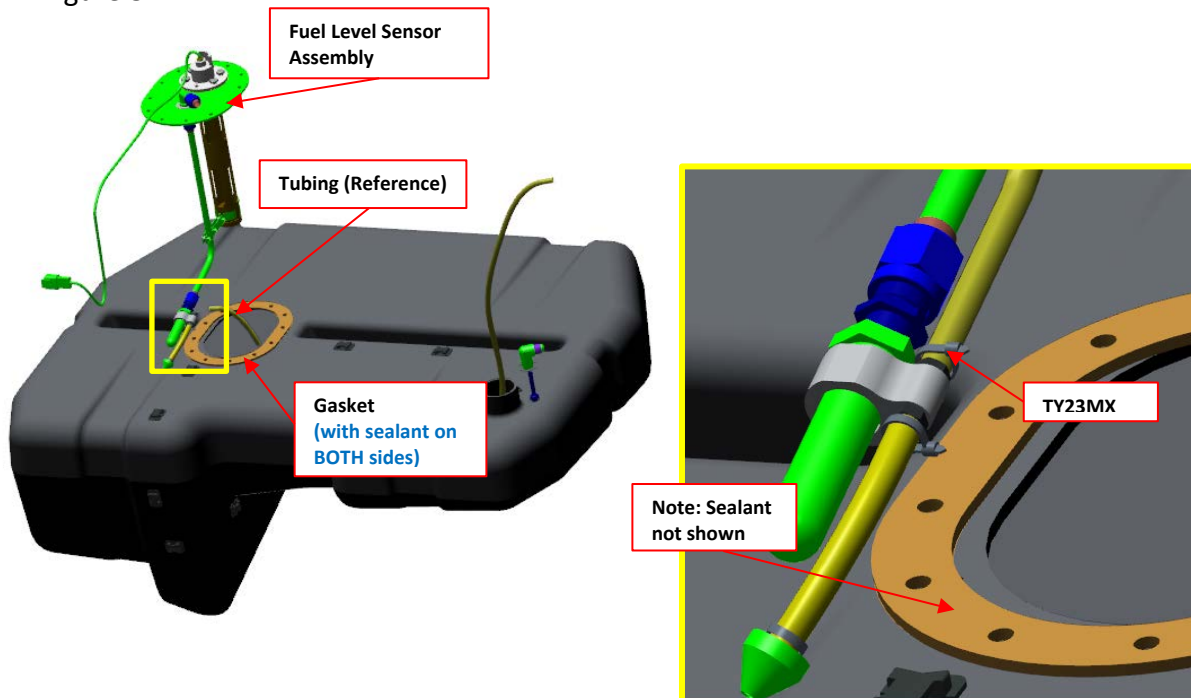

Figure 8: Sump line routing and connection
5. Cut a length of Tygon tubing (ICA012096) to a length of 45 ± 0.5 -inch length and route it through the tank and secure it in the filler neck. Refer to Figure 8. Temporarily Allow the opposite end to be loose in the tank near the low spot of the tank.
6. Position the assembled fuel tank access plate assembly near the port and connect the fuel sump tube to the straight fitting on the clamp and secure with a TY23MX ty-rap. Refer to Figure 8.